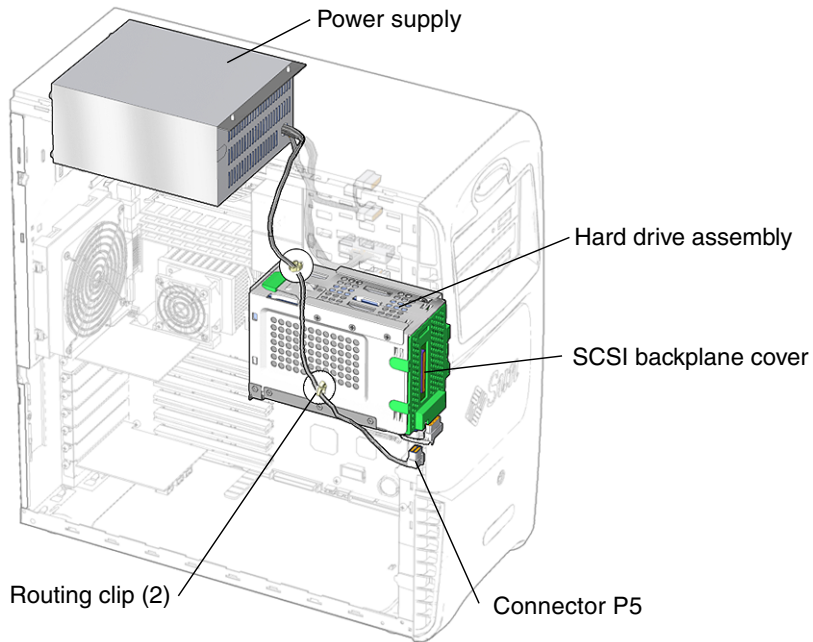

FIGURE 13-2 Disconnecting Power Supply Cable Connector P5 From the Hard Drive Assembly
3. Disconnect the power supply and cable connector P5 from the hard drive assembly (FIGURE 13-2).
6. Open the power supply cable routing clips (FIGURE 13-2).